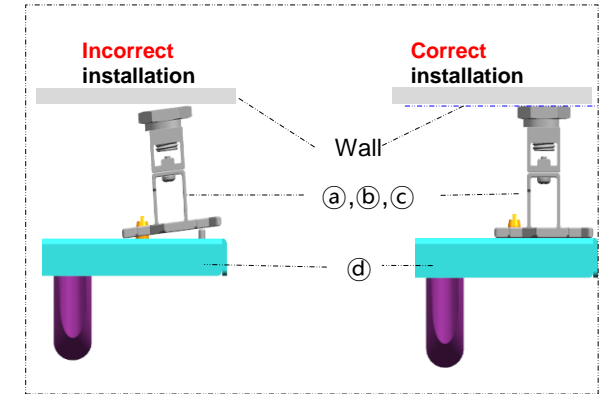

Fig.4 Keeping frames parallel
- ※ Caution: The surface ④ should be attached to ① and ②. The three surfaces (the wall, ① and ②, and ④) should be in parallel. (See Fig.4)